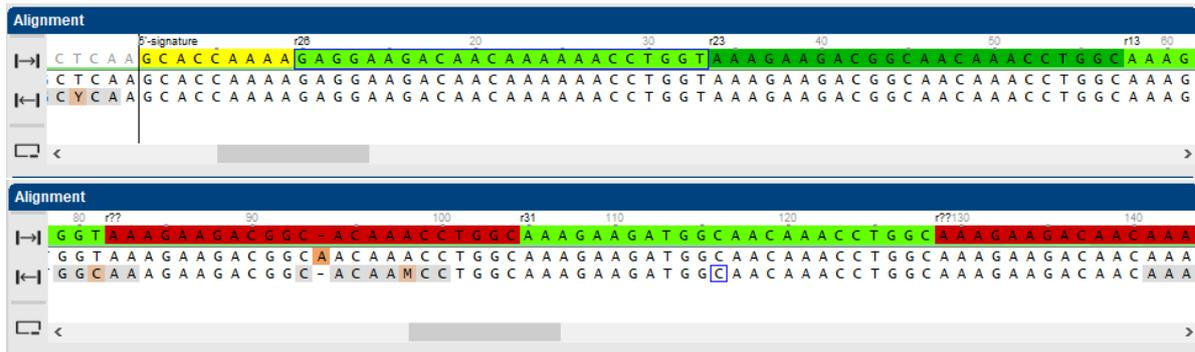

Figure 5: Showing the repeats on the consensus sequence.
- Known repeats are shown in *green* (see Figure 5) and the name of the repeat is shown on top of the known repeat sequence.